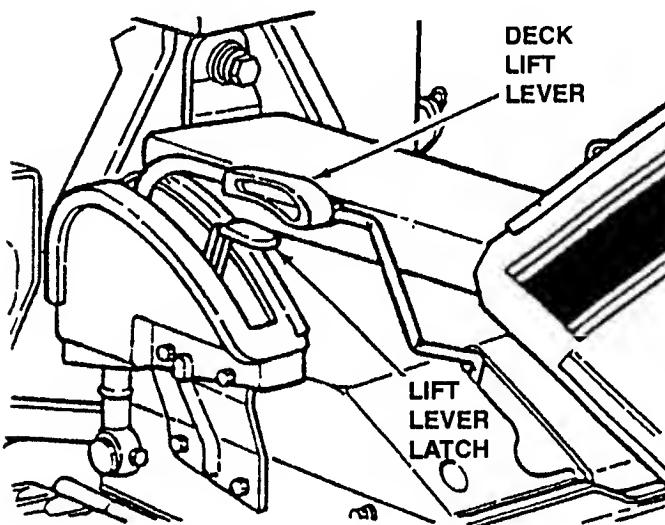

FIGURE 2.16
- Adjust cutting height as desired to any one of six positions using deck lift lever. When in desired height of cut, release latch, then try to move deck lift lever to ensure lift lever latch is fully engaged. See Figure 2.16.